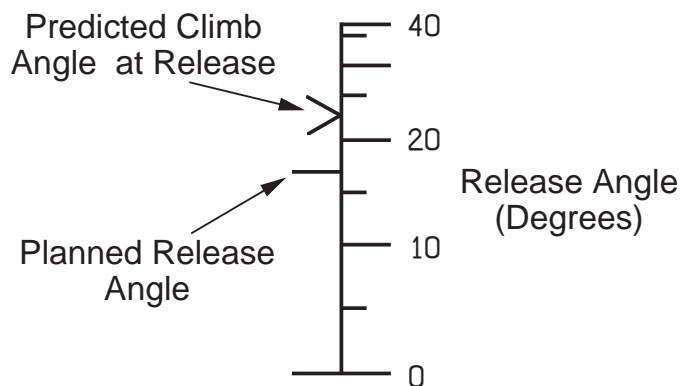

Figure 6-17 ULFT Release Angle Scale
- A release angle scale is displayed next to the altitude scale when low-drag weapons are selected (Figure 6-17). A tic indicates the selected PRA and the range caret indicates the release flight path angle for an immediate 3.8 g pull-up within 2 seconds.